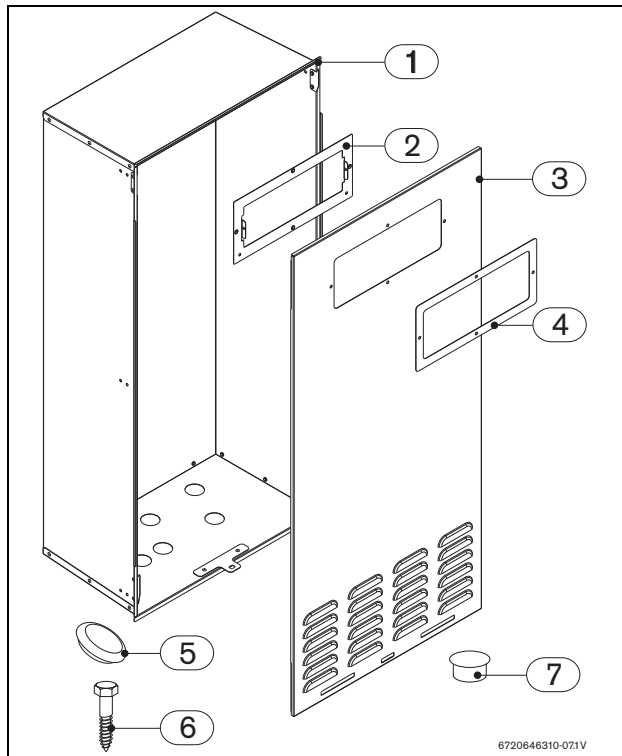
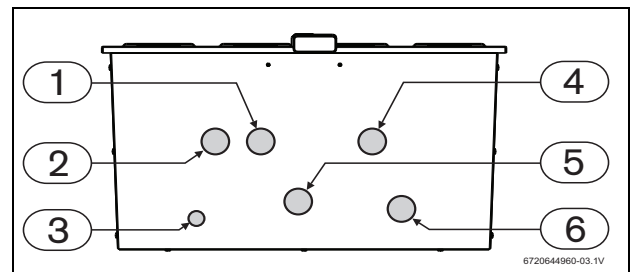
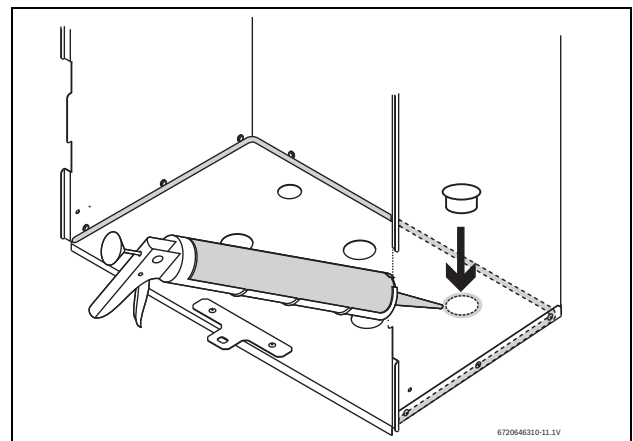

Fig. 1
Fig. 4 Recess box plumbing/electrical openings
Fig. 9 Silicone condensate opening (non-condensing appliances only)
- ▶ If installing a non-condensing model (e.g. 830ES, 940ES or 940ESO) in the recess box, the condensate opening (Fig. 4, item 6) must be sealed. Use the supplied T-plug (Fig. 1, item 7) to seal the opening as in Fig. 9. The wide end of the plug should